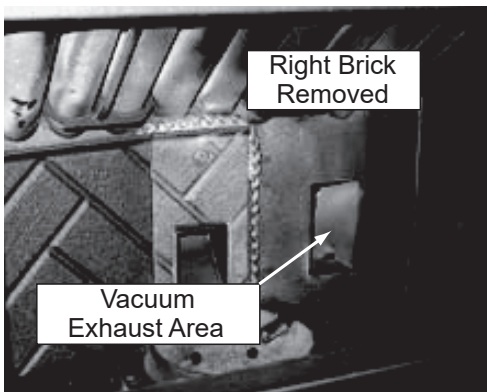
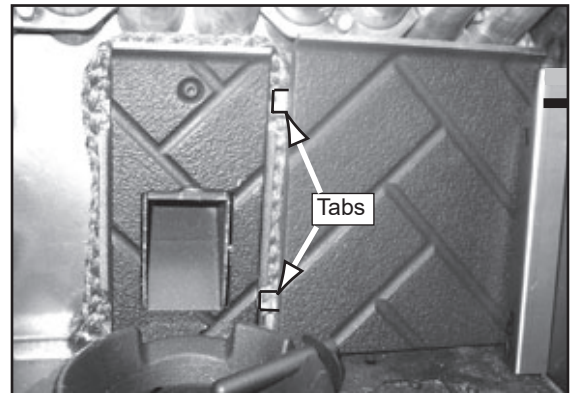

Figure 27.3
Figure 27.4
1. Place right brick in behind the right bracket, and then slide to the left so the tabs are behind the center brick (Figure 27.4).
5. Insert baffle into top front inside the firebox and pull forward. Then raise up the bottom end and insert baffle tab into slot on the top of the right bracket to lock into place (Figure 27.3). Place the left side hook at the bottom of the baffle over the top edge of brick for stability (Figure 27.4).